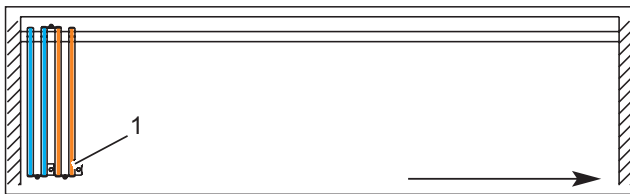
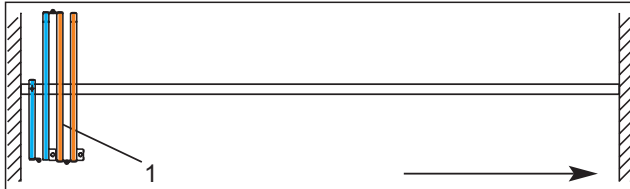

Fig. 17 Close panel pair – FSW EASY Safe
Fig. 18 Close panel pair – FSW EASY Safe-C/-C-Plus
2. Carefully slide the outside panel pair (Fig. 17/1 or Fig. 18/1) until the panel pair in the FSW EASY Safe variant is fully unfolded. Hold the panel steady when sliding.